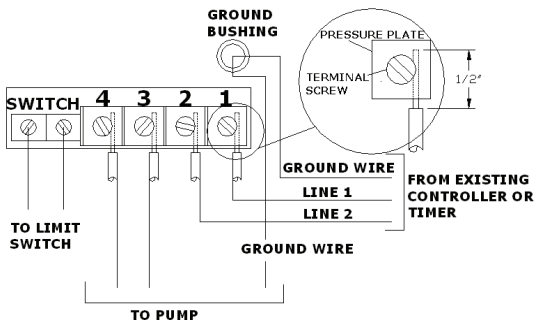

Figure 2. SVRS Box Terminal Layout
- 4.11 Attach the wires coming from the controller (Paragraph 4.7) and from the pump (Paragraphs 4.8 or 4.9) to the terminals of the SVRS box as shown in wiring diagram Figure 2. Insert only the stripped copper ends of wires under the pressure plates of terminal screws as shown in Figure 2. Tighten screws firmly (20 to 25 inch-lbs).